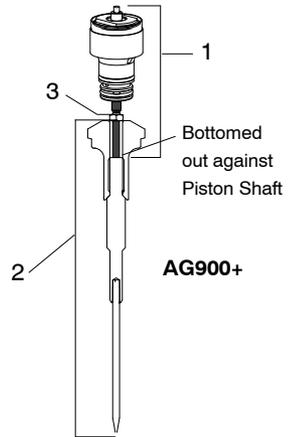

Figure 12: Piston/Cartridge Assembly and Needle Assembly
2. **AG900+ Module:** See Figure 12. Install the new needle assembly onto the piston/cartridge assembly. Turn until the needle bottoms out against the end of the piston shaft.